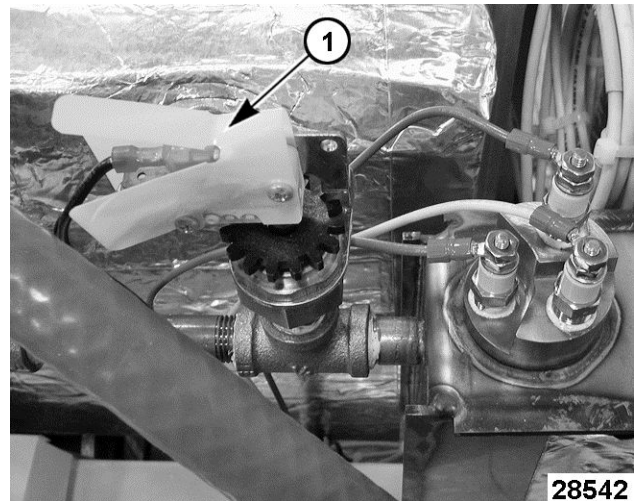

Fig. 76
- B. Verify Mylar™ cover [1] Fig. 76 is in position covering electrical connections.